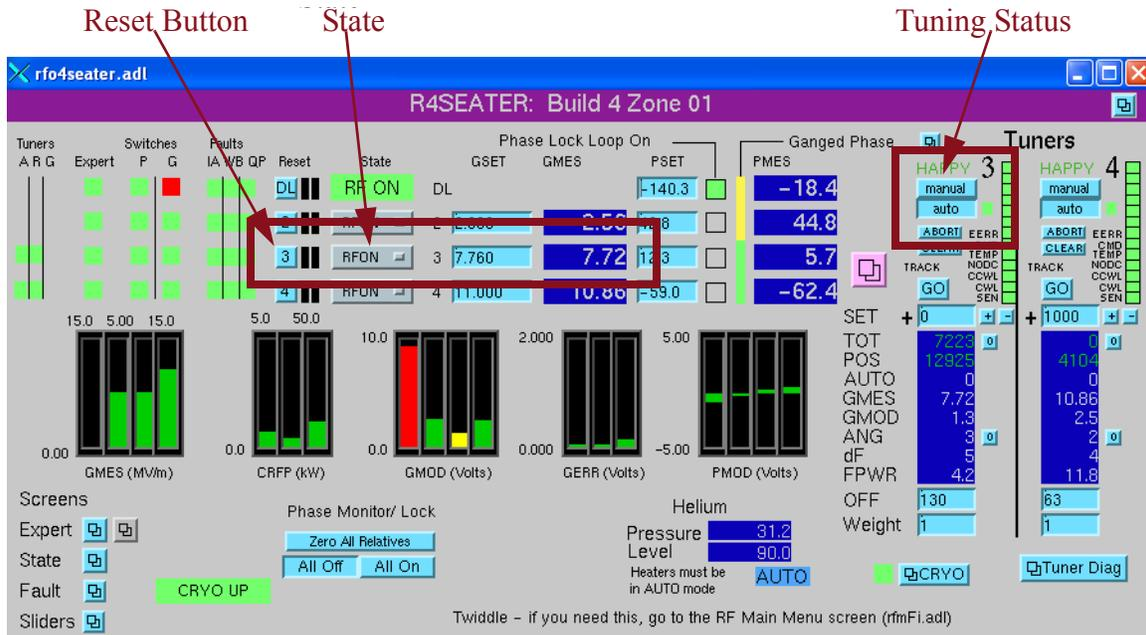

Figure 8-1: RF 4-Seater screen
1. Open the *Ops 4 Seater* screen from **FEL Main Menu**⇒**RF**⇒**RF FEL Main Menu**⇒**Ops**⇒**Ops 4 Seater** (Figure 8-1).